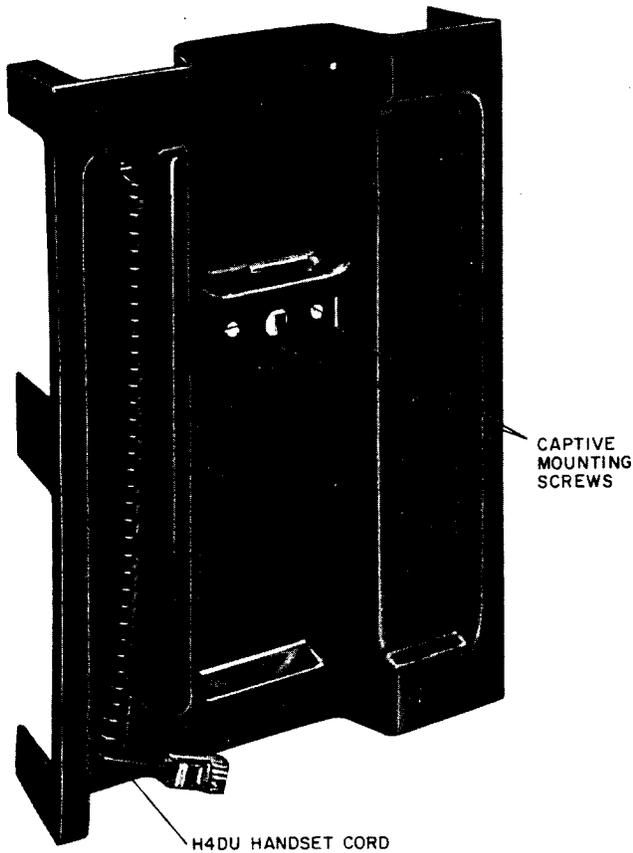
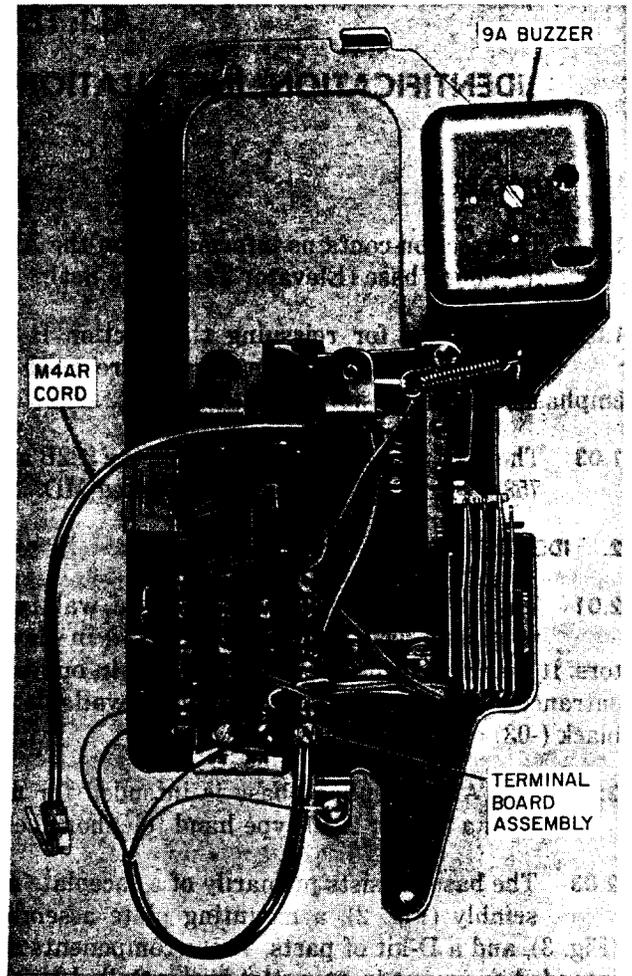

Fig. 2—840399455 Faceplate Assembly
Fig. 3—840399463 Mounting Plate Assembly
- 2.03** The base consists primarily of a faceplate assembly (Fig. 2), a mounting plate assembly (Fig. 3), and a D-kit of parts. These components are intended to mount in an outlet box installed by the customer or in an existing opening which is suitable for housing the base.
- (5) Assemble the faceplate assembly to the mounting plate assembly using the two captive screws located in the faceplate (Fig. 2).
- (6) Replace 812558039 (P-25E803) card retainer.
- (7) Remove approximately 0.1 inch of locking tab from plug of handset cord. This procedure deters unauthorized hand telephone set removal.
- (8) Plug handset cord into the hand telephone set.